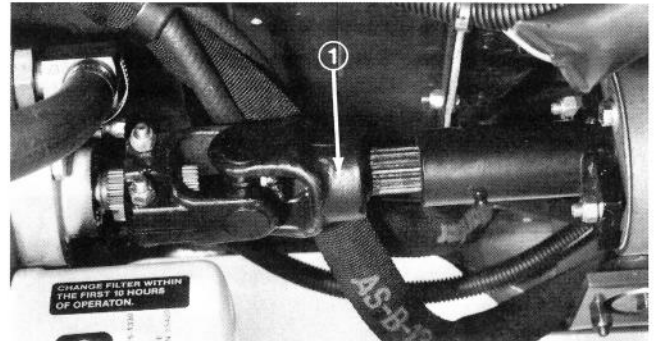

Figure 33
TOWING TRACTION UNIT (Fig. 33 & 34)
1. Loosen and remove capscrews securing the drive shaft to the engine drive coupler. Loosen capscrews clamping drive shaft to transmission (Fig. 33). Remove drive shaft.
5. When towing is completed, reinstall driveshaft as shown in figure 33. The splines are designed to allow assembly only when the two halves of the shaft are properly oriented.